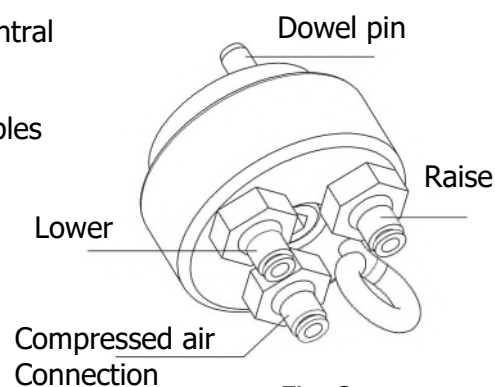

Fig. 2
① Pendant control type (hand control)
② Control valve (on motor)
- ◆ Attach the hoses to the corresponding nipples (Fig. 2).